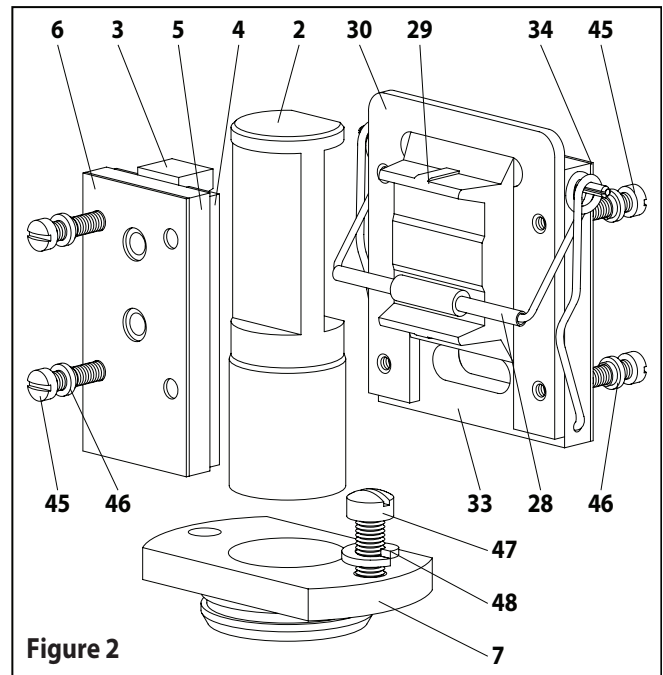

Figure 2
5. Using a screwdriver, unhook the (28) insert spring assembly from the bottom of the (33) valve plate and pin assembly (see figure 2).
6. Remove the (28) insert spring assembly from the pins in the top of the (33) valve plate and pin assembly.
7. Pull the (2) valve piston upward until the (7) upper gland has pulled out of its chamber.
8. Remove the (7) upper gland.